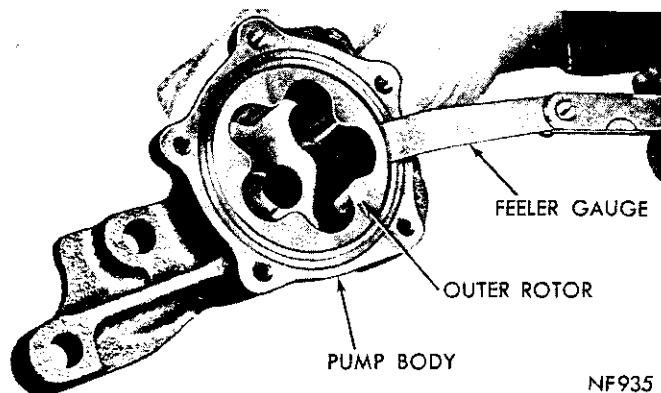

Fig. 54—Measuring Outer Rotor Clearance
(6) Install outer rotor into pump body, pressing to one side with fingers and measure clearance between outer rotor and pump body (Fig. 54). If measurement is more than .014 inch, replace oil pump body.